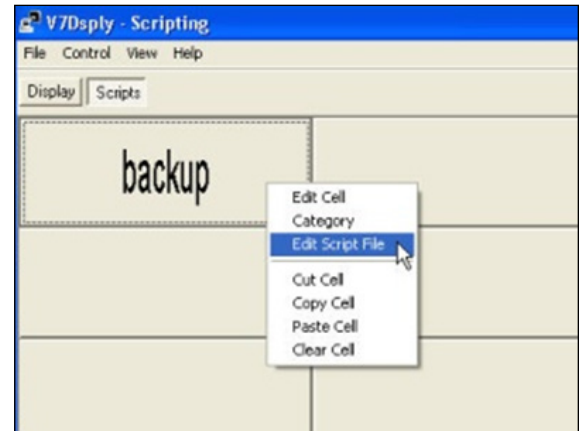

Figure 27: Editing Script File
4. Right-click on the cell described in Step 2 and select **Edit Script File** to open the **Edit Script** window. Refer to **Figure 27**.